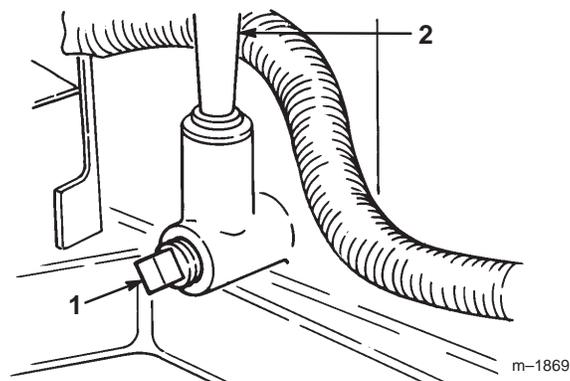

Figure 31
- Place a pan below the oil dipstick/fill tube and remove the drain plug (Fig. 31).